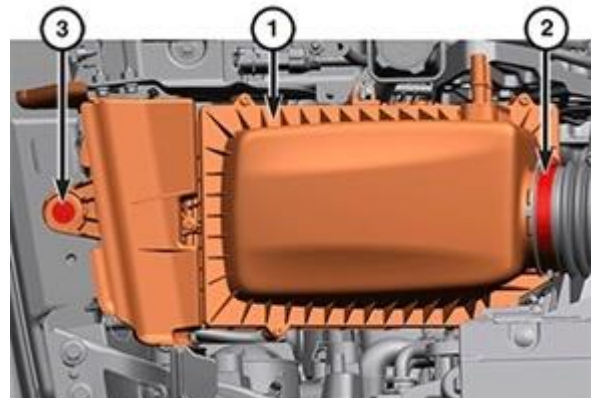

Figure 15 – Air Cleaner
25. Loosen the clean air hose band clamp (2) (Figure 15).
26. Remove the bolt (3) (Figure 15).
27. Disengaging the air cleaner body (1) from the two lower rubber grommets and from the clean air hose (Figure 15).